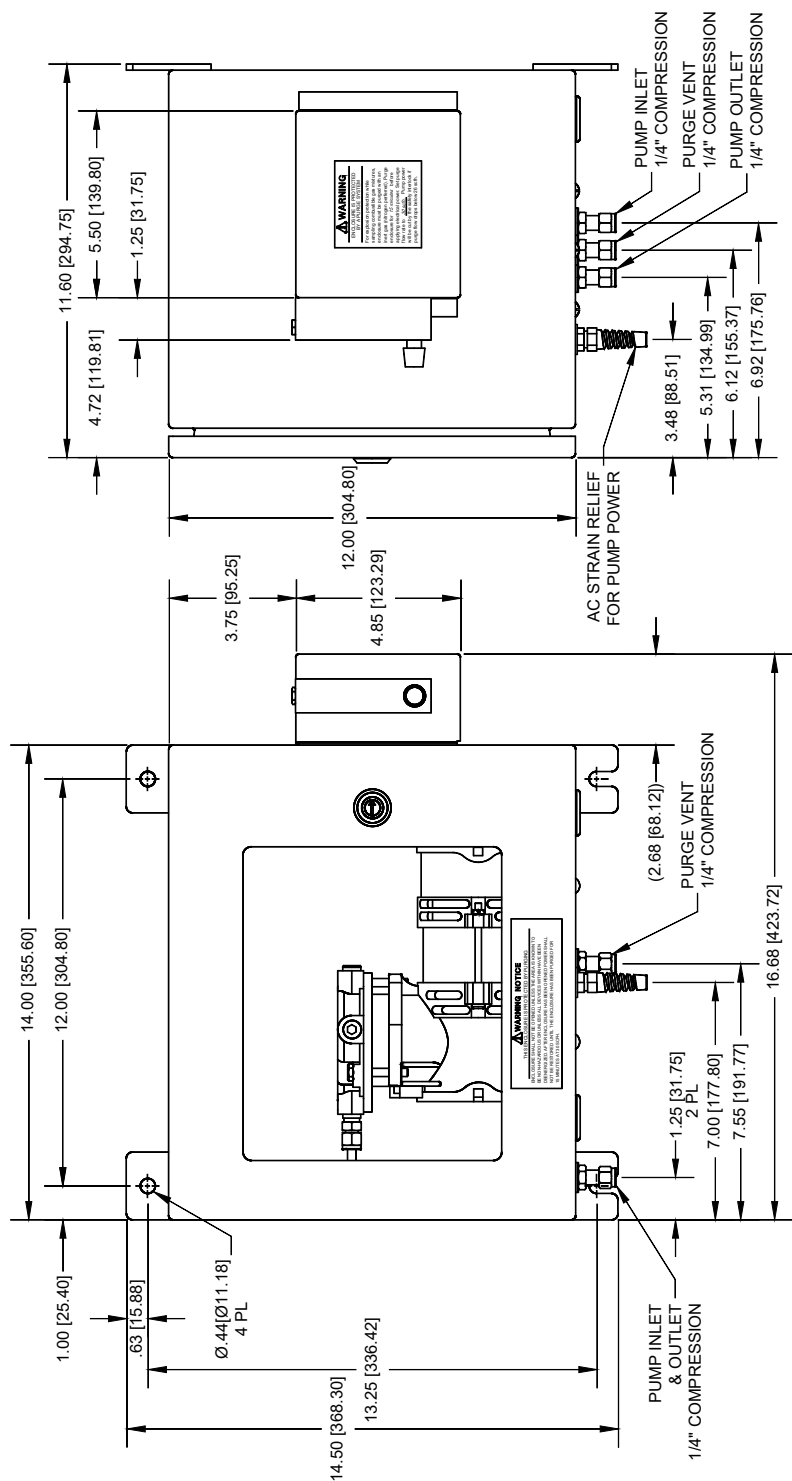

Figure 159: Pump Purge Option
- If equipped with a vacuum pump, an enclosure equipped with a nitrogen case purge is provided to maintain a safe condition. In addition, an interlock is provided to detect and react to loss of Nitrogen purge flow. See **Figure 159** on page 178.
- If the analyzer has the optional vacuum pump, the pump enclosure must be mounted to a nearby wall or inside the rack shared by the analyzer. See **Figure 159** on page 178.